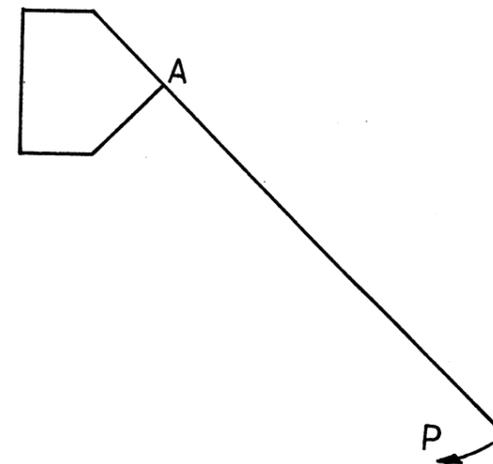

FIG. 2.2
2.2 **Figure 2.2** shows a block . A piece of string is tied at point **A**. Determine the locus of the end of the string if it winds around the block in the direction as indicated by point **P**. Name the locus formed. 7